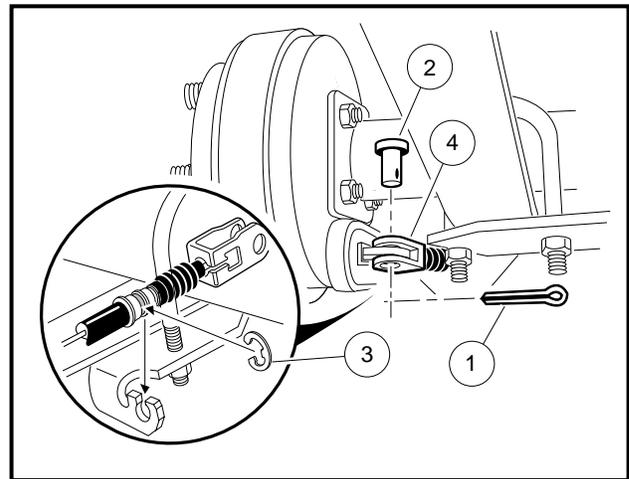

Figure 16-9 Disconnect Brakes
4. Remove the cotter pins (1), brake cable clevis pins (2), and cable retaining E-clips (3). Disconnect the brake cables (4) (**Figure 16-9, Page 16-7**).